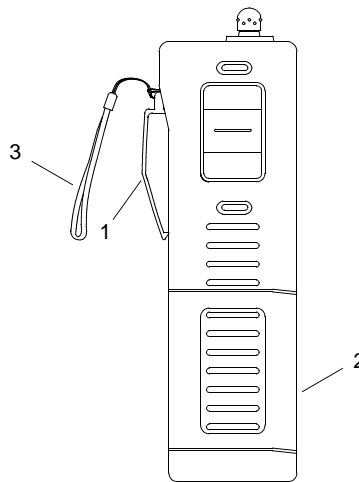

Figure 10. VHF/FM Handheld Transceiver
1. Install belt clip (figure 10, item 1) on transceiver (figure 10, item 2), if desired.
2. Install nylon strap (figure 10, item 3) on belt clip (figure 10, item 1), if desired.